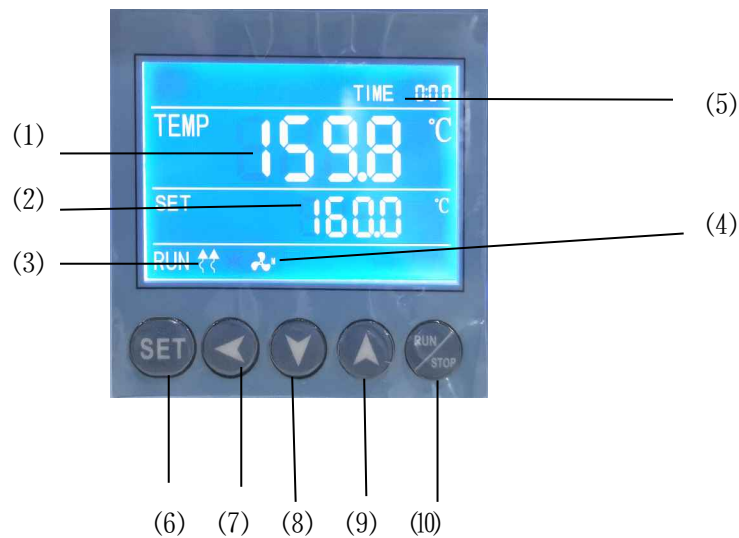

Figure 1
2.3 The controller enters the working mode after about 4 seconds of self-checking procedure. (Figure 1)